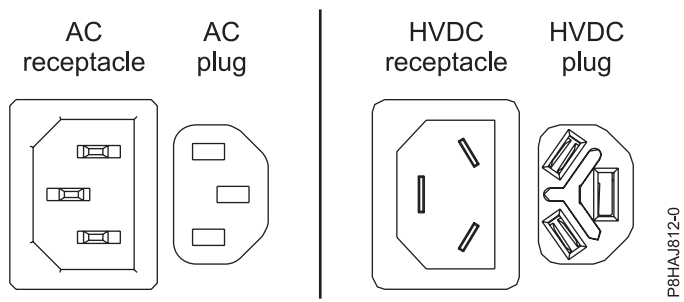
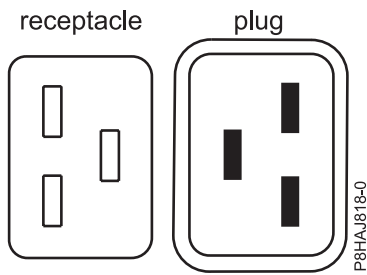
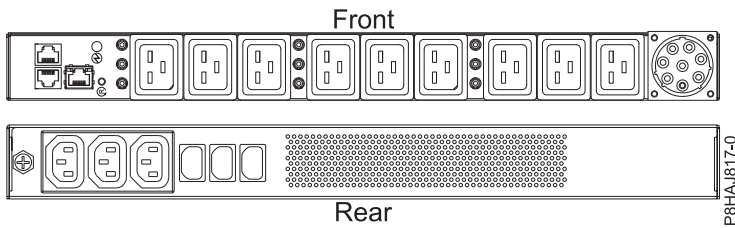

Figure 53. AC and HVDC connectors
Figure 54. Connectors for the 8408-44E system
Figure 55. PDU for the 8408-44E system
Figure 53 shows the supported alternate current (AC) and high voltage direct current (HVDC) connectors. Figure 54 and Figure 55 show the supported connectors and power distribution unit (PDU) for 8408-44E.